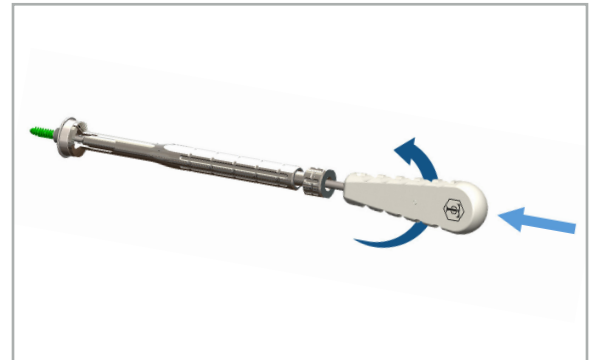

Figure 39
Step 2: Apply downward pressure with the baseplate inserter screwdriver [MWJ123] and turn the baseplate inserter screwdriver counter-clockwise until the screw falls out. | **Figure 39**